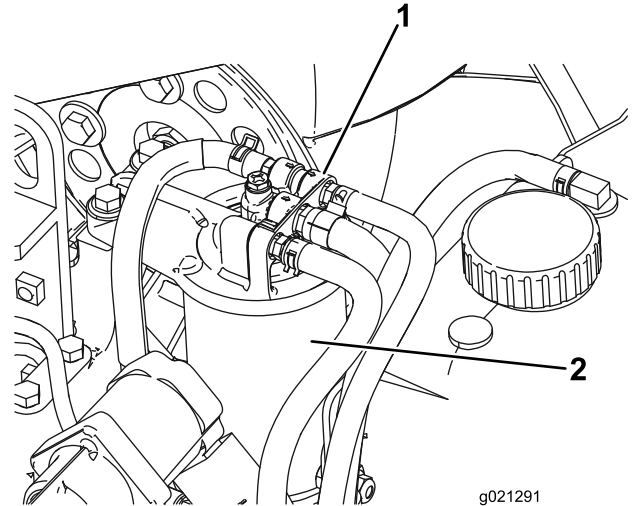

Figure 87
1. Clean the area around the fuel-filter head (Figure 87).
2. Remove the filter and clean the filter head mounting surface (Figure 87).